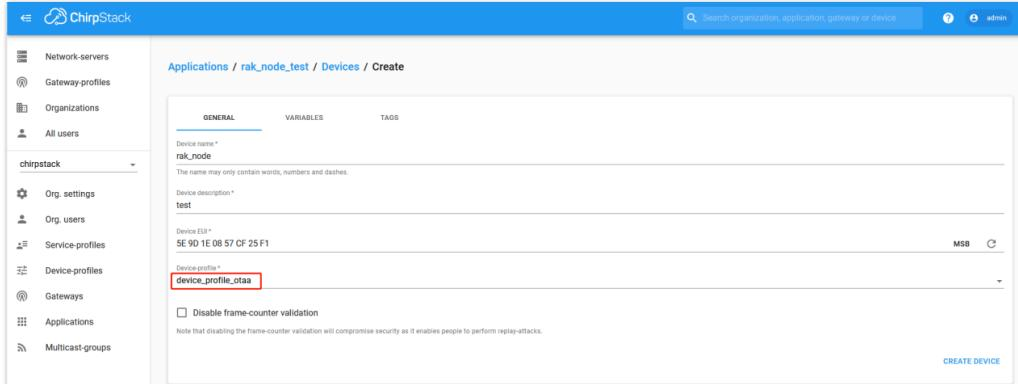

Figure 205: Chirpstack OTAA activation
- If you have selected **DeviceProfile\_OTAA**, as shown in **Figure 205**, then after the device is created, an Application Key must be also created for this device.